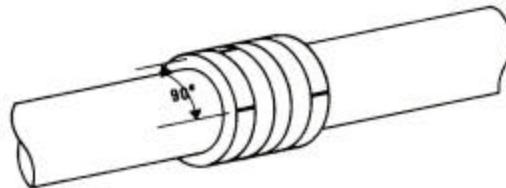

Fig.25 – Position of displaced rings in 90°
- Proceed the assembly in the reverse sequence of the disassembly, introducing each part inside the chamber with auxiliary of gland cover. Packing rings should be assembled with their extremity displaced about 90° from each other. See fig.25